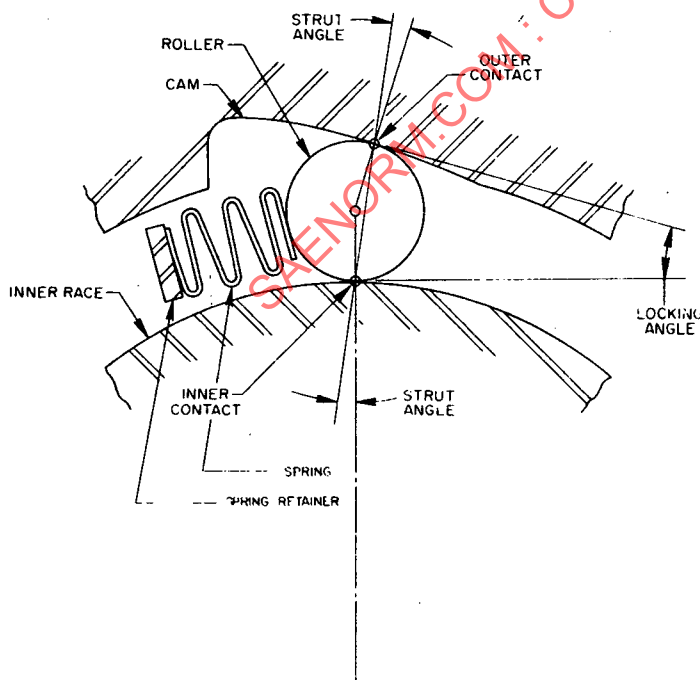

FIG. 1—OUTER CAM TYPE ROLLER ONE-WAY CLUTCH DIAGRAM
3.2.1 **OUTER CAM CLUTCH**—A roller clutch which has the cam profile surfaces on the outer element. (See Figs. 1, 3, and 4.)
3.2.4 **LOOSE ROLLER CLUTCH**—A roller clutch which has the rollers individually placed between the cam and race, not located by a cage. (See Figs. 1, 2, and 4.)
3.3.1.2 **Hook Type**—A cam which has no legs, thereby forming "hooks" at the free wheeling end of the cam ramps. (See Figs. 1, 2, and 3.)
3.3.2 **RACE**—That element of the clutch providing the cylindrical surface through which the rollers transmit torque. (See Figs. 1–4.)
3.3.3 **ROLLER**—The cylindrical locking element of the clutch. Several are usually used in each clutch. (See Figs. 1–4.)
3.3.4 **ENERGIZING SPRING**—A spring used to actuate the roller into contact with the cam and race. (See Figs. 1–4.)
3.3.6 **SPRING RETAINER**—That element which locates and provides reaction for the spring in loose roller clutches. (See Figs. 1 and 2.)
to the cam and race at the contact points of the roller (equal to twice the strut angle). (See Figs. 1 and 2.)
3.4.2 **STRUT ANGLE**—The angle between a line connecting the contact points of the roller at the cam and race and a radial line from the roller center to either contact point. (See Figs. 1 and 2.)